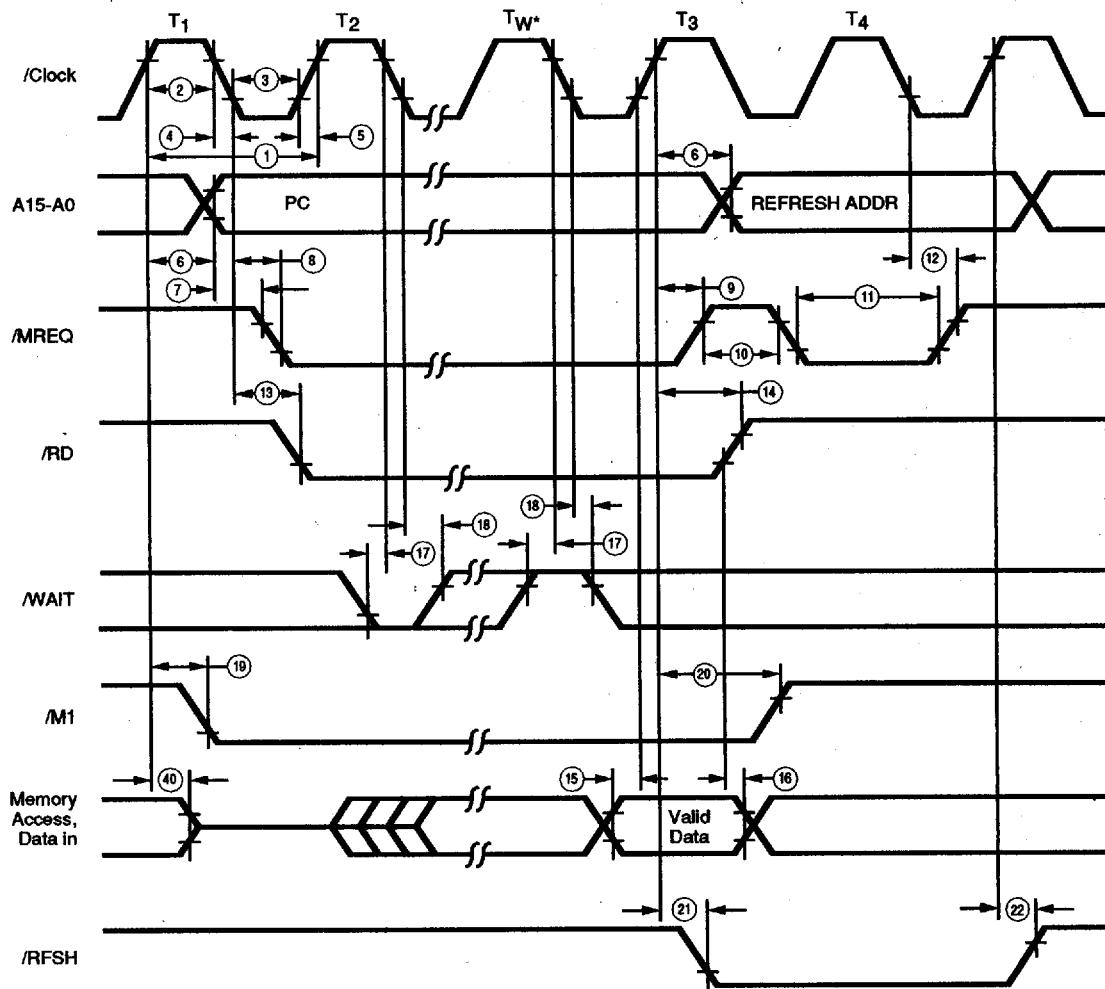

Figure 28. Instruction Op-code Fetch
The CPU places the contents of the Program Counter (PC) on the address bus at the start of the cycle (Figure 28). Approximately one-half clock cycle later, /MREQ goes active. When active, /RD indicates that the memory data can be enabled onto the CPU data bus.